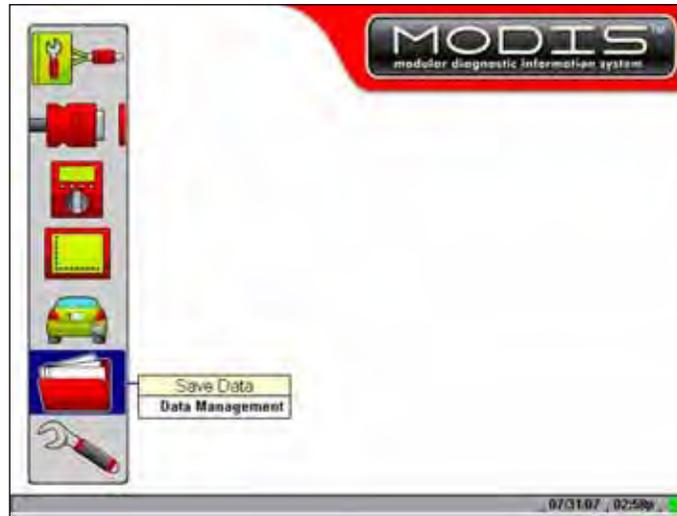

Figure 5-47 Data Management Menu Option
2. Select the **Data Management** option (Figure 5-47).